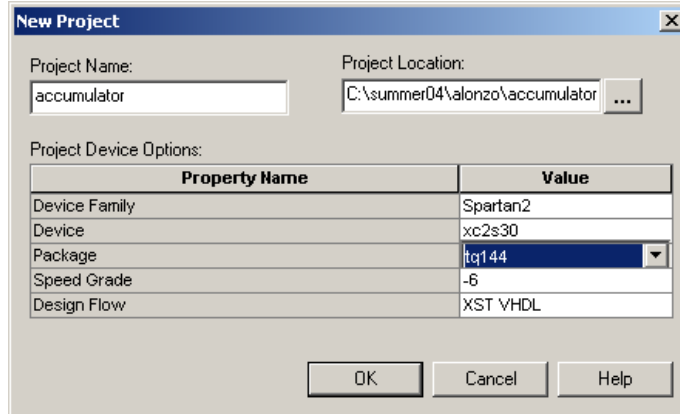

Figure 4; Creation of a project. The format for **Project Location** must be “C:\summer04\student\_name\”
2. Create counter project; In the Project Navigator, select **File** → **New Project** and setup options as in figure 4. Click **OK**.